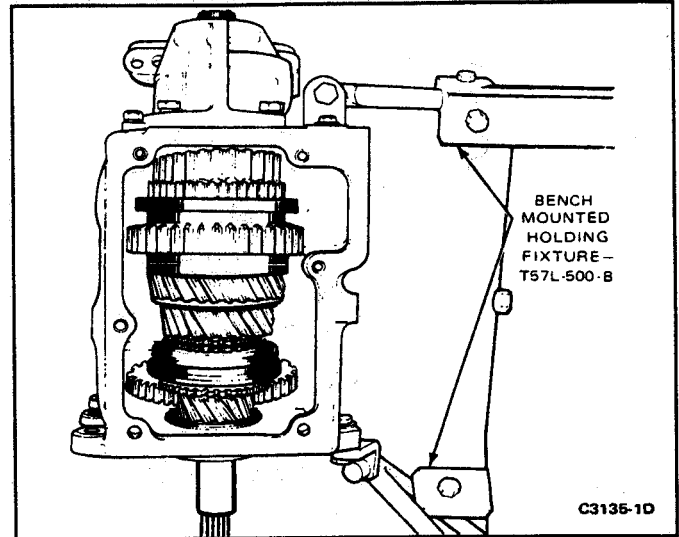

FIG. 4 Transmission in Holding Fixture
1. Position the transmission assembly in a suitable holding fixture, (Fig. 4). Drain the transmission and shift the unit into second gear before removing the housing assembly.